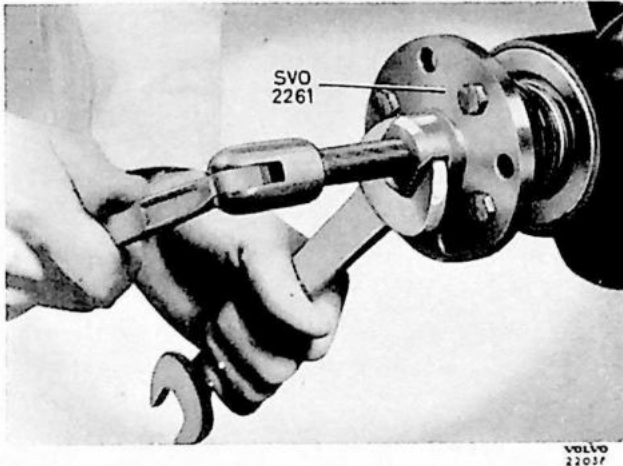
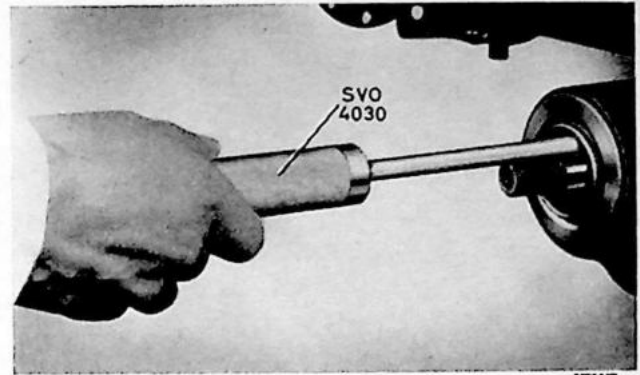

Fig. 5. Removing flange.
Fig. 6. Removing sealing ring.
2. Remove the nut on the flange and then pull this off with SVO 2261. See fig. 5. Remove the old sealing ring with SVO 4030, see fig. 6.
1. Set up the rear axle in fixture SVO 4110. Check that the caps (37) for the differential carrier have coinciding marks with the housing. If not, mark one of the sides with a center punch. Unscrew the bolts (44) for the caps and remove these.
2. Remove the adjusting nuts (34) and bearing rings. Lift out the differential with ring gear.
3. Unscrew the nut (22) and pull off the flange (21) with tool SVO 2261, see fig. 5. Press out the pinion (18).
4. Pull out the sealing ring (20) with puller SVO 4030 from the front end of the pinion housing, see fig. 6. Remove the paper gasket, washer (19) and roller bearing (25).